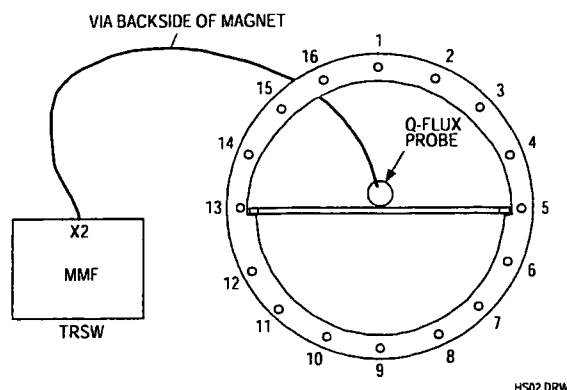

Figure 5 Connections of the quadrature flux probe (Front View)
15. Mount the quadrature flux probe in the QBC flux probe holder and position the holder in the center of the body coil with the connector of the Q-flux probe pointed to the backside of the magnet. Also the cable must be lead via the backside of the magnet. See Figure 5.
16. Connect a cable between tune A at connector MMFX2 and the quadrature flux probe. See Figure 5.
See Figure 5.